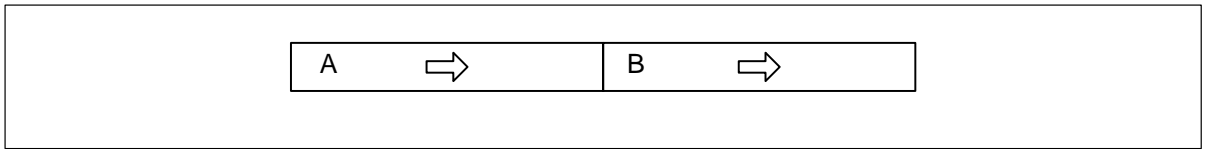

Figure 26. Two Line Segments
One channel (A) carries the left half of the line or frame, and the other channel (B) carries the right half of the line or frame. Data is presented simultaneously on both channels. Figure 26 shows where the data appears in a line from the original image. PC-CamLink can support this format for pixel depths from 8-bits up to 12-bits. The IFC Software Library calls this “Two Channel Separate Tap Left to Right” or LNK_2CHAN_SEP_TAP_L2R.